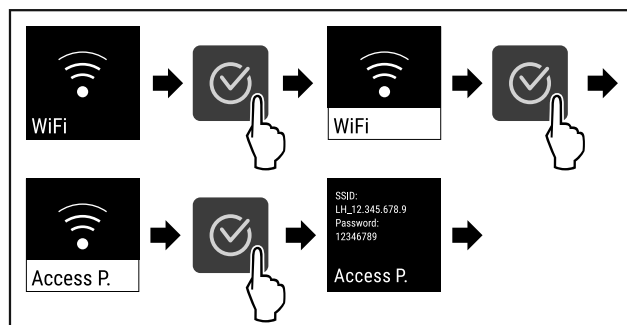

Fig. 84
- Complete the steps (see Fig. 84).